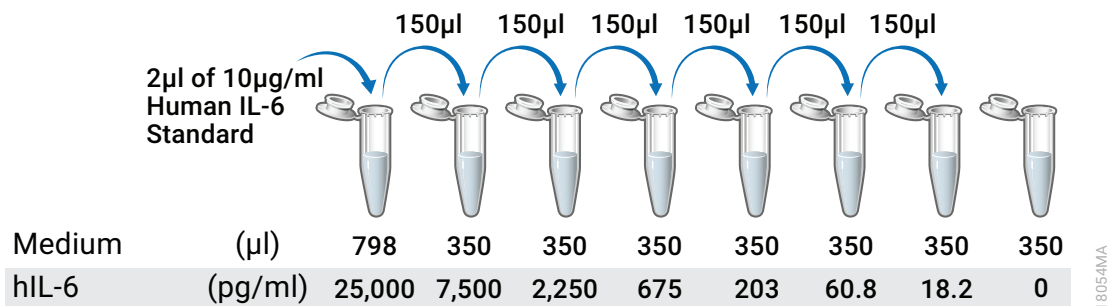

Figure 3. Human IL-6 dilution series.
3. Prepare an initial concentration of 25,000pg/ml human IL-6 by diluting Human IL-6 Standard (10 μ g/ml) 1:400 in prewarmed cell culture medium. For example, prepare 800 μ l of 25,000pg/ml human IL-6 by adding 2 μ l of the Human IL-6 Standard stock to 798 μ l of culture medium (see Figure 3).
3. Prepare an initial concentration of 25,000pg/ml human IL-6 by diluting Human IL-6 Standard (10µg/ml) 1:400 in pre-warmed cell culture medium. For example, prepare 800µl of 25,000pg/ml human IL-6 by adding 2µl of the Human IL-6 Standard stock to 798µl of culture medium (Figure 3).